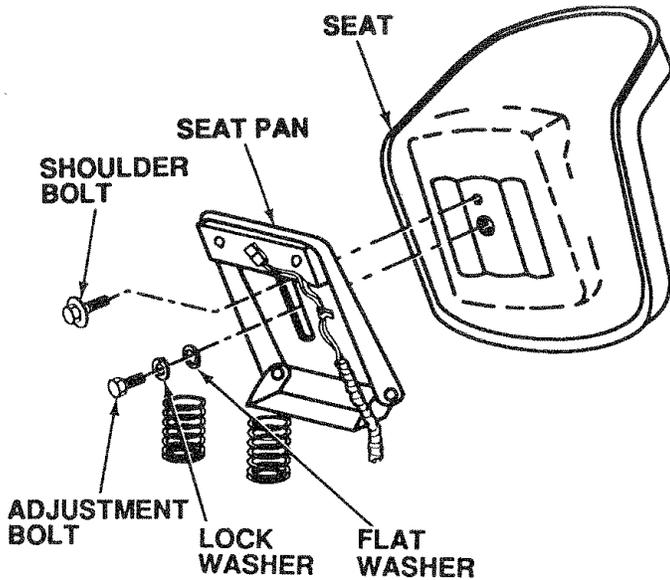

FIGURE 3
- Place seat on seat pan. Screw adjustment bolt, lock washer and flat washer into seat (Fig. 3). Screw shoulder bolt into seat (Fig. 3). Adjustment bolt, shoulder bolt and washers found in bag of parts (shown full size on page 6).
- a. Lift seat (Fig. 3).